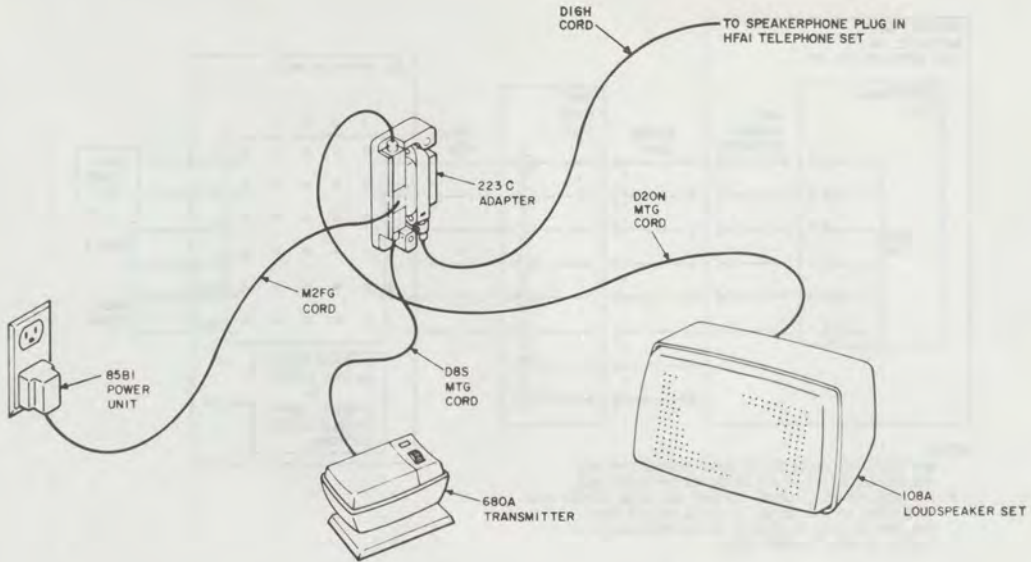

Fig. 45—4A Speakerphone Installation and Connections
- (e) Plug the connectors of the mounting cords from the loudspeaker, the transmitter, and the 85B1 power unit into the connector of the D16H-50 cord supplied with the adapter (Fig. 45). Assemble this group of connectors in the 223C adapter and install the adapter cover.